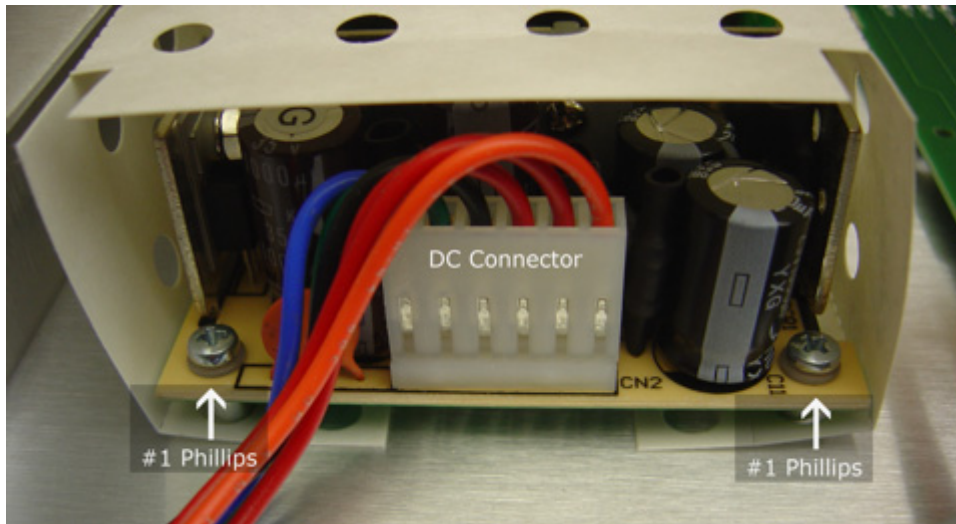
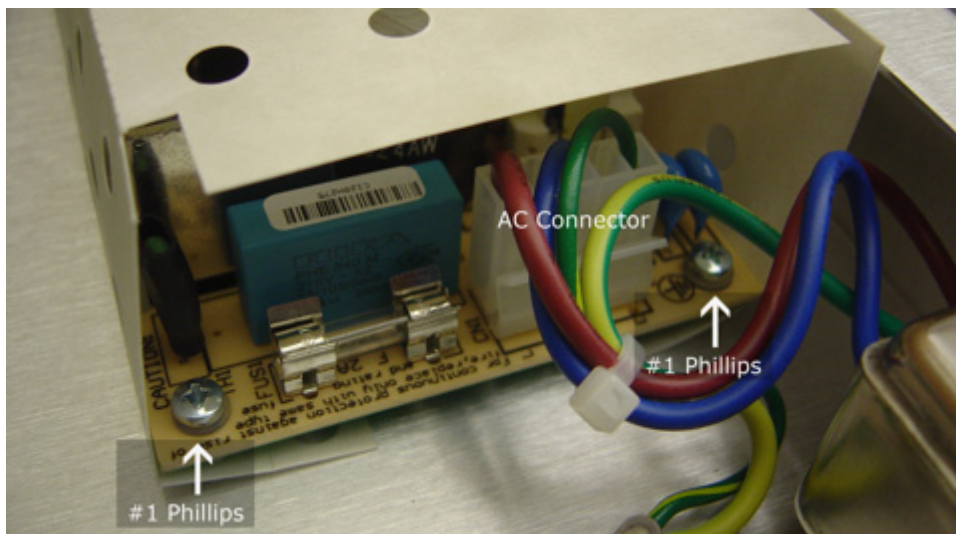

Figure 2 DC Connector and Attaching Screws
Figure 3 AC Connector and Attaching Screws
4. Remove the four Phillips head screws, shown in Figure 2 and Figure 3, that hold the power supply module in place.